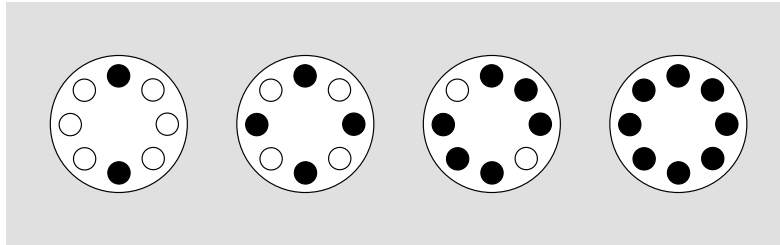

Figure 1. Arranging Tubes in the Rotor. Two, four, six, or eight tubes can be centrifuged per run if they are arranged in the rotor as shown.
4. Load the filled and sealed (if applicable) tubes symmetrically into the rotor (see page 7 for tube information). If fewer than eight tubes are being run, they must be arranged symmetrically in the rotor (see Figure 1). *Opposing tubes must be filled to the same level with liquid of the same density.*